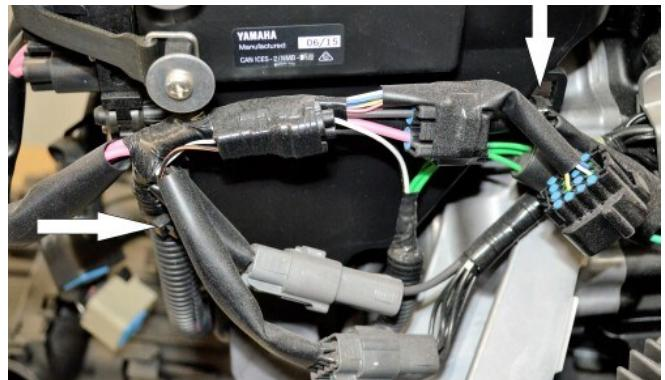

Figure 4
Cut zip ties (2) securing harness to left side of air box. (Figure 4)